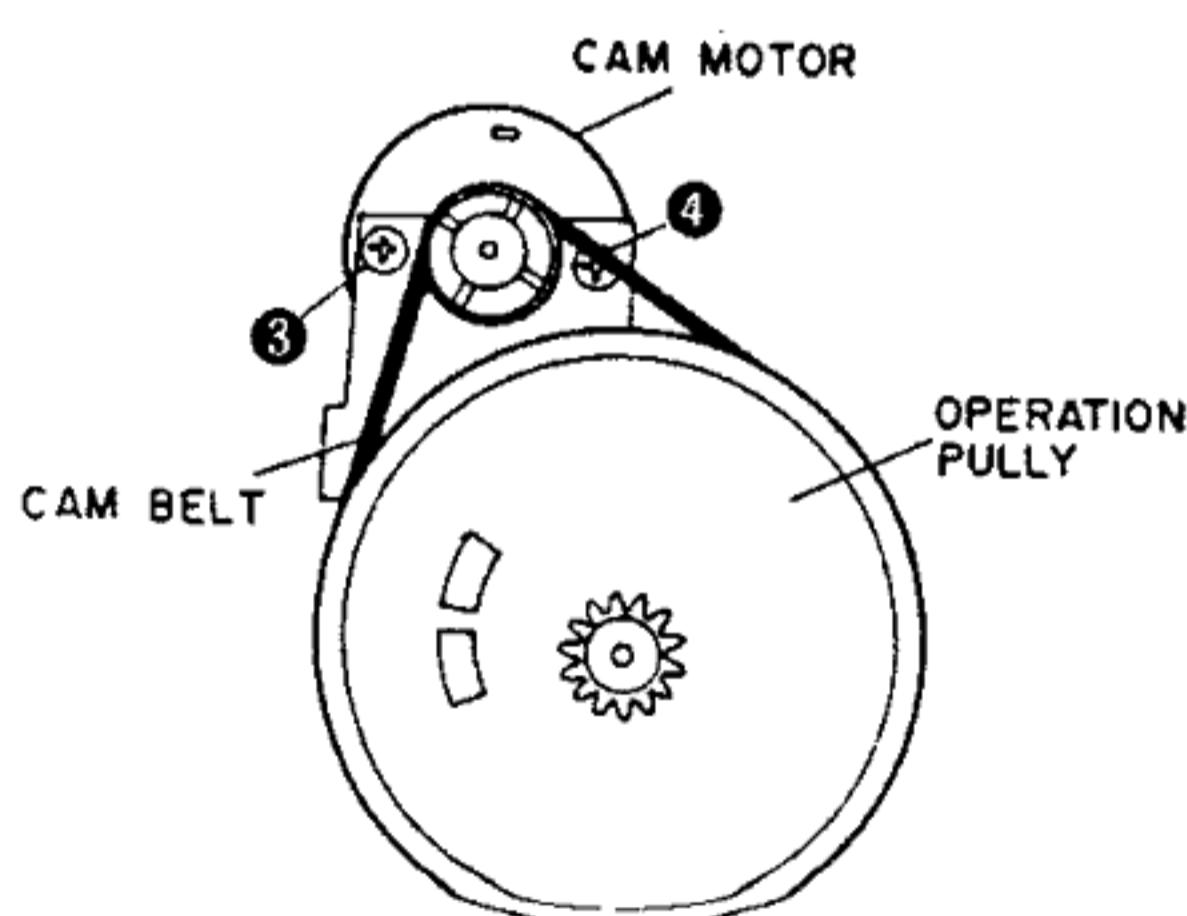

Fig. 3-9
- 5) Remove cam motor securing screws ③ and ④. (Refer to Fig. 3-9.)